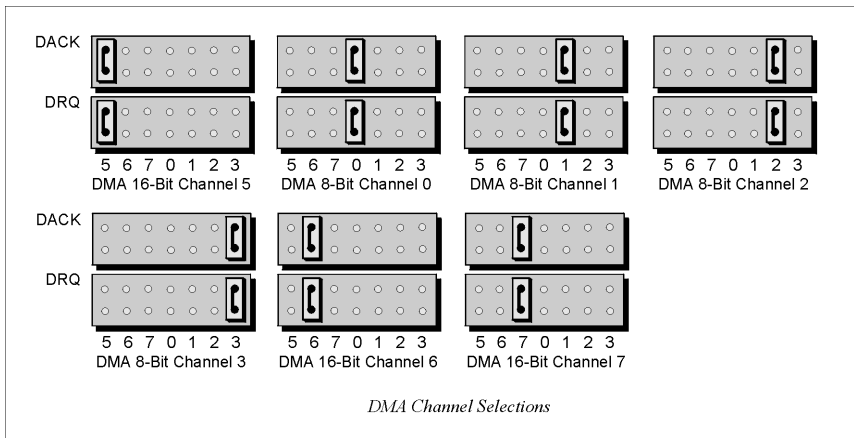

Figure 4-4. Personal 488 ISA Card DMA Channel Selections.
1. The factory-default DMA channel is 5. If this creates a conflict, reset jumpers DACK and DRQ according to **Figure 4-4**.